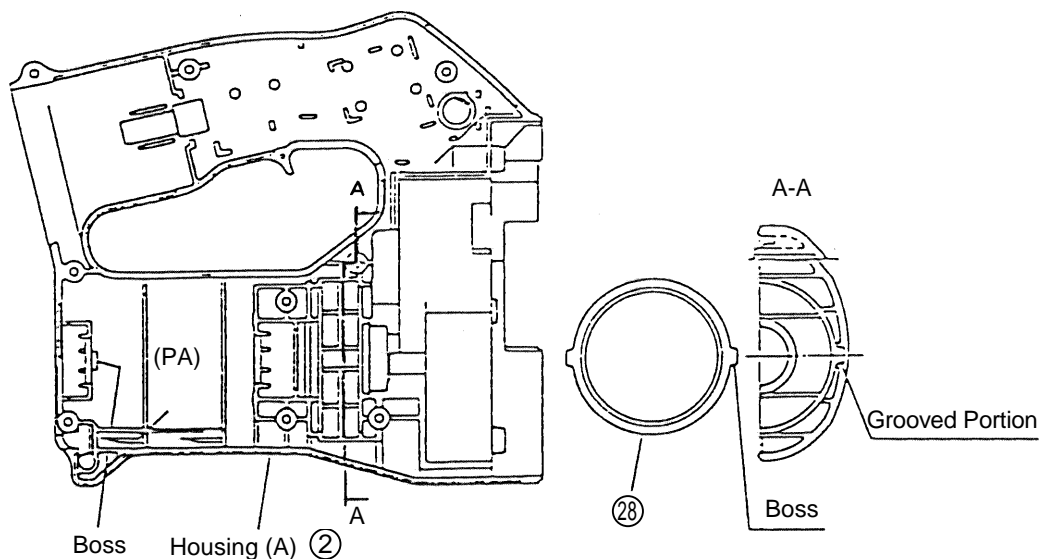

Fig. 15
When inserting the completed assembly into Housing (A) (2), fit the notched portion of the Motor (34) onto the matching protruding boss of Housing (A) (2) and ensure that the protruding boss of the Ring Gear (28) is properly aligned with the matching grooved portion of Housing (A) (2) (See Fig. 15).